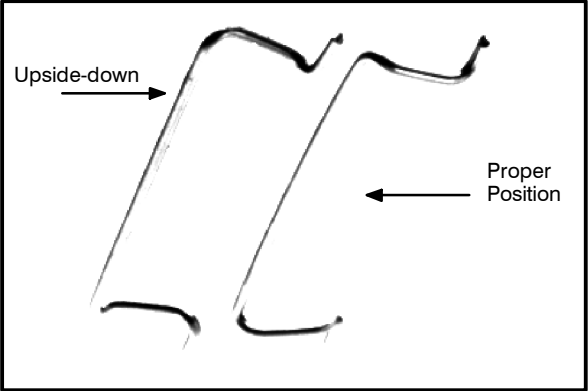
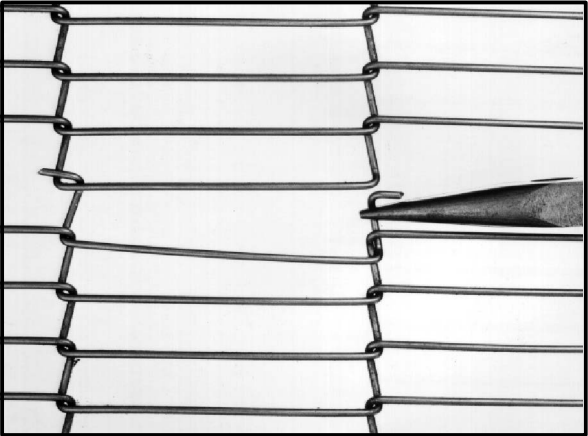

Figure 10
Figure 11
4. Install inner master links. See Figure 10 and Figure 11.